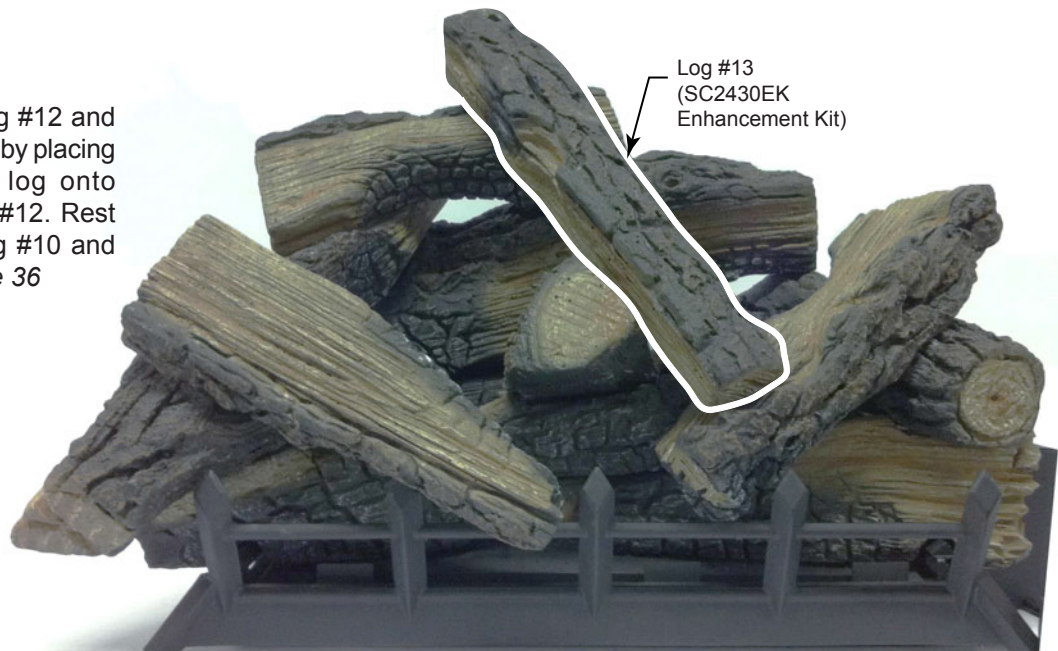

Figure 36
13. Place log #13 onto log #12 and top front right log (#10) by placing notch on bottom of log onto locating block on log #12. Rest bottom of log onto log #10 and center log (#9). *Figure 36*